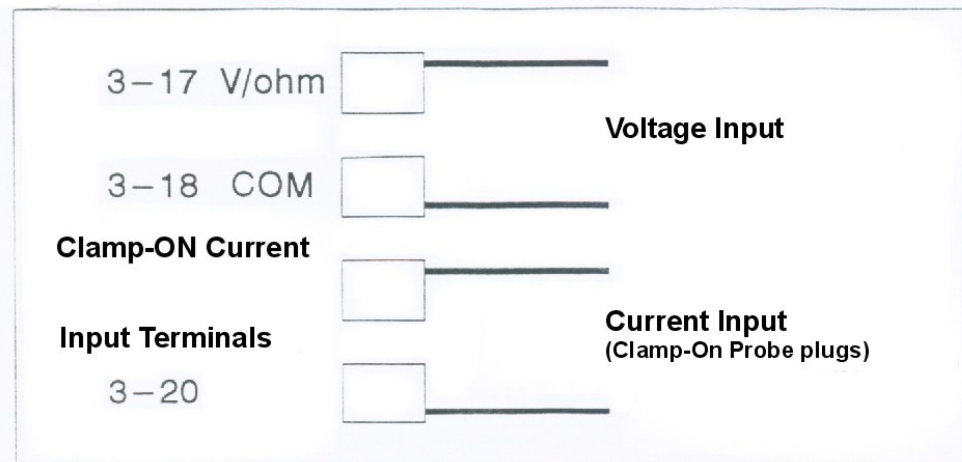

Fig. 4
1. Wire connection as follows, refer (Fig. 4)
4. "^ Button" (3-14, Fig. 4) is used to select the value (0, 1, 2, ...9) of each digit.